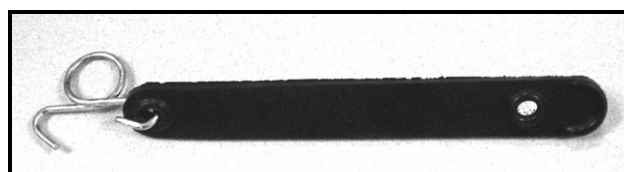

FIGURE 3
3. Assemble the Chute Strap, Item 1, onto the Spring Hook, Item 2, smaller loop end as shown in Figure 3.